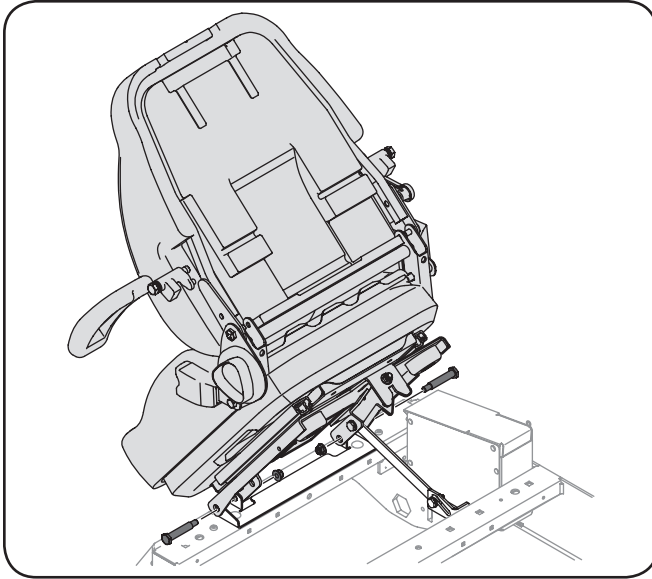

Figure 3-9
1. Remove the two flange lock nuts, washers and shoulder bolts from the manual bag. See Figure 3-9.
2. Place the seat into position and secure the seat into place with the hardware as shown in Figure 3-9.